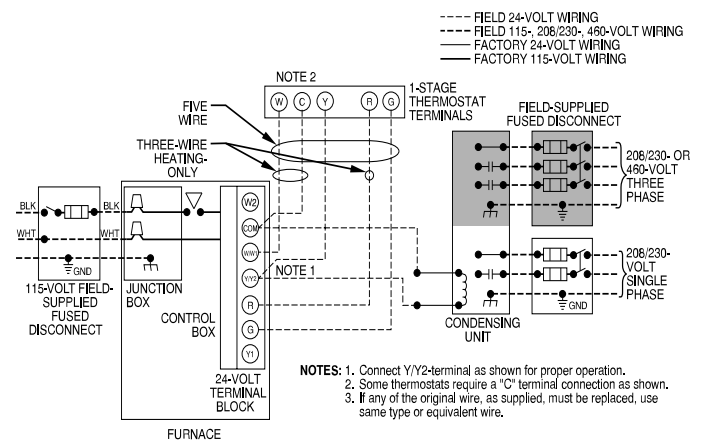

Fig. 32 – Typical Field Wiring Diagram
See Fig. 32 for field wiring diagram showing typical field 115V wiring. Check all factory and field electrical connections for tightness.
6. Connect power cord power and neutral leads to furnace power leads as shown in Fig. 32.
5. Connect field power and neutral leads to furnace power leads. as shown in Fig. 32.
Make field 24V connections at the 24V terminal strip. See Fig. 37. Connect terminal Y/Y2 as shown in Fig. 32 for proper cooling operation. Use only AWG No. 18, color-coded, copper thermostat wire.